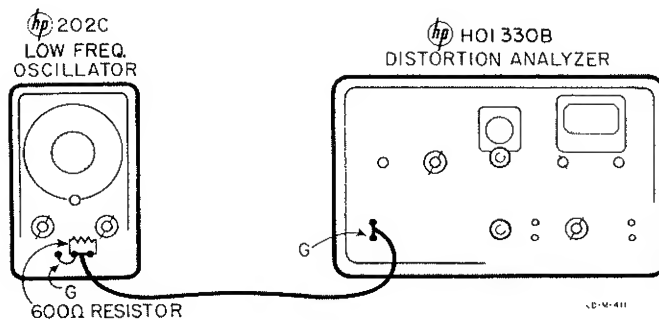

Figure 4-4. Distortion Test Setup
- 1) Connect the 202C to a 330B Distortion Analyzer as shown in figure 4-4.